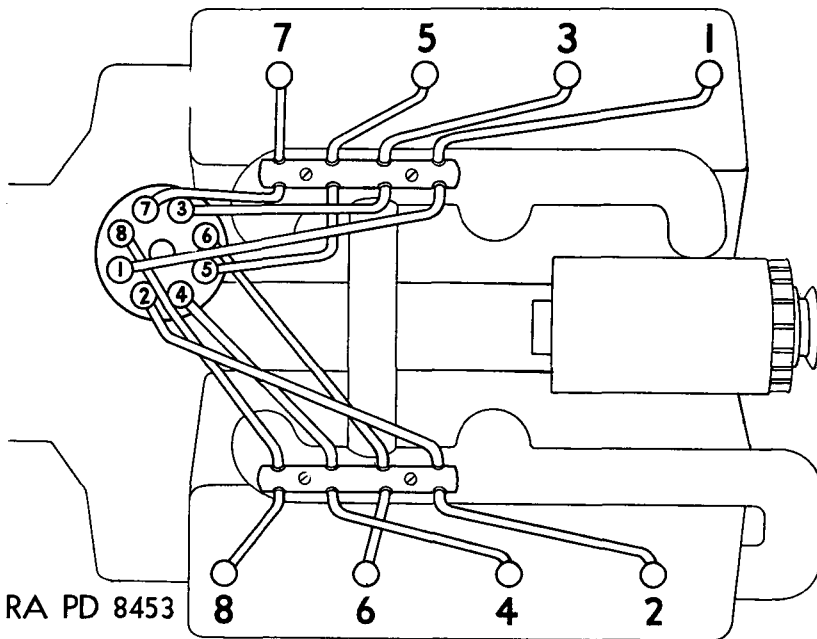

Figure 54 – Engine Cylinder Numbering
b. **Installation of Complete Ignition Wiring Harness.** Connect each of the spark plug wires in turn to the distributor cap, working from the wire markers and following the order indicated in figure 54. Install wires on support straps and connect to the spark plugs. Tighten screws for straps. Connect primary and secondary wires between distributor and coil.
c. Installation. Position a new gasket on spark plug. Insert plug in engine and tighten with standard spark plug wrench or wrench similar to that shown in figure 57. **CAUTION:** *Tighten plugs only enough to secure a good seal; overtightening will damage plugs.* Install suppressor, and connect the correct high-tension wire to each plug (fig. 54).